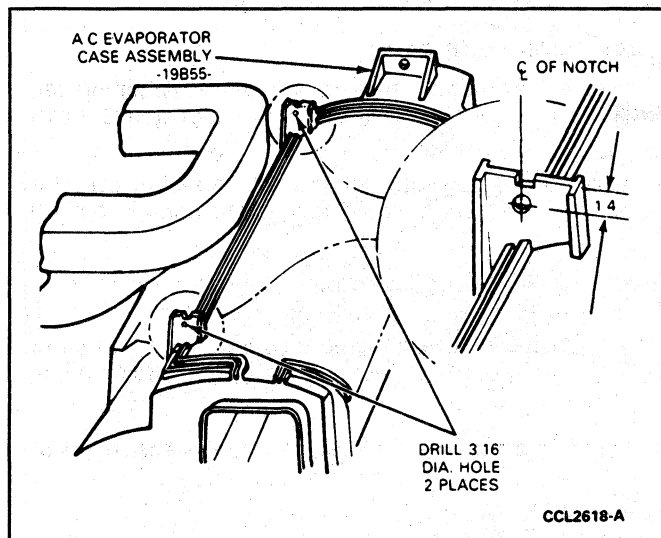

FIG. 37 Drilling Holes in Evaporator Case Tabs
10. Drill a 4.75mm (3/16-inch) hole in both upright tabs on top of evaporator case (Fig. 37).